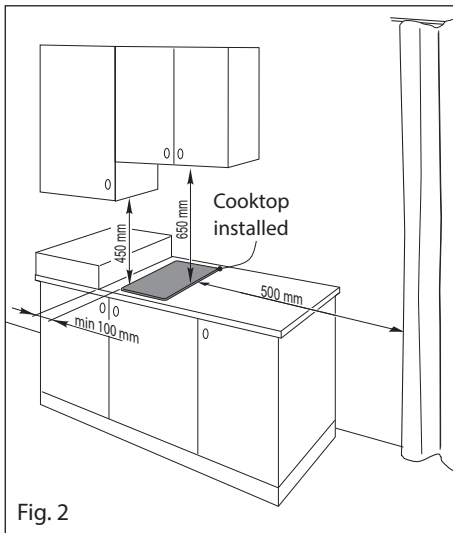

Fig. 2
- There must be a distance of at least 650 mm between the hob and any wall cupboard or extractor hood positioned immediately above (see fig. 2).